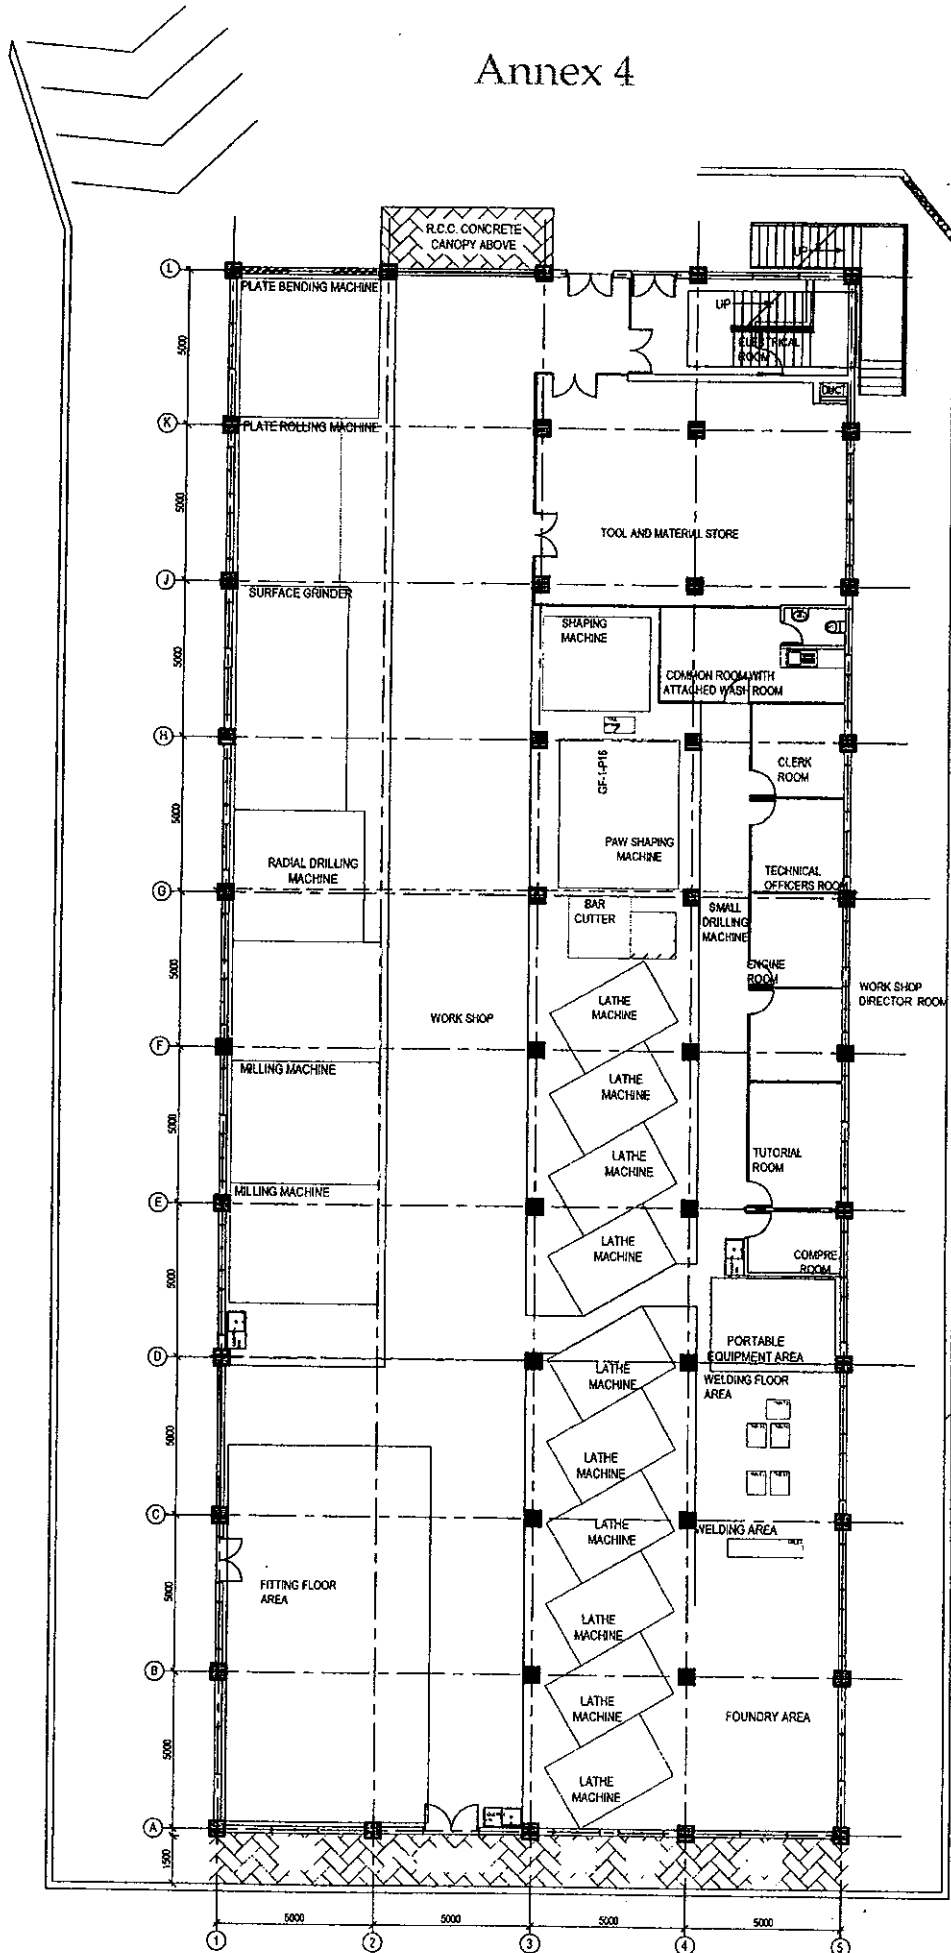

Figure Q4
- d) Figure Q4 in Annex 4 shows a layout drawing of a workshop. It is required to propose a suitable Closed-Circuit Television (CCTV) camera system for the workshop covering all the critical areas.